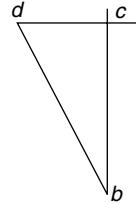

Figure 4.13
The reaction R_2 can be determined by considering joint (2), i.e. joint BCD , as shown in Figure 4.13, where the vector bc represents the unknown reaction R_2 which is measured as 2.18 kN.